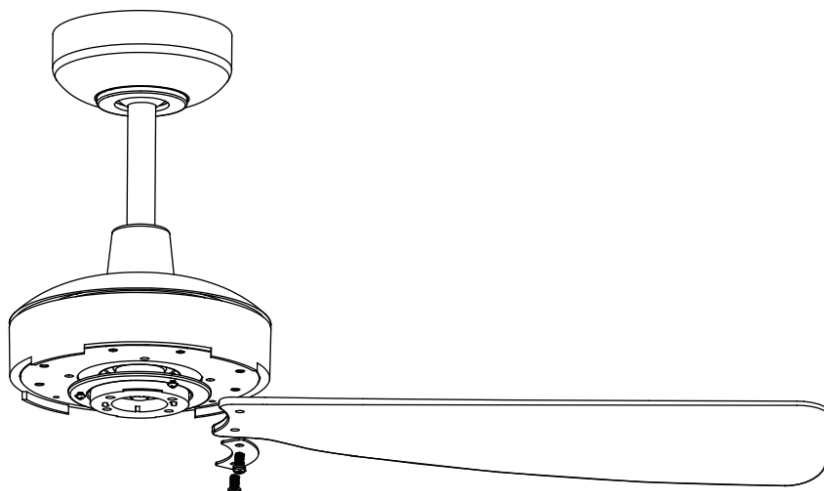

Fig. 5
INSTALLATION OF BLADE (Fig. 5)
1. Orientate the blade support plate and fan blade onto the fan assembly (Fig.5)
Mount the fan blade onto the fan assembly using three blade screws with lockwashers (supplied in fan parts bag) (Fig.5).